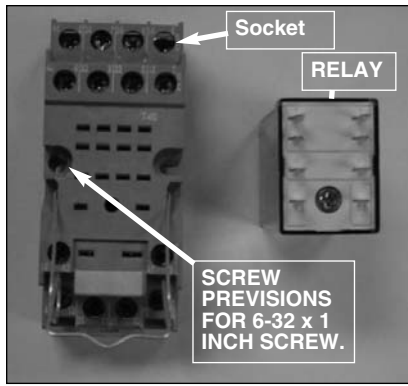

Figure 7.
9. Remove the relay from the relay socket if not already separate (See Figure 7).
13. If the socket is being placed so that the 6-32 machine screw is being placed so that the 6-32 x 1 inch machine screw is being used, insert the item 9, 6-32 x 1 inch machine screw into the screw hole located in the center left of the socket (See Figure 7).